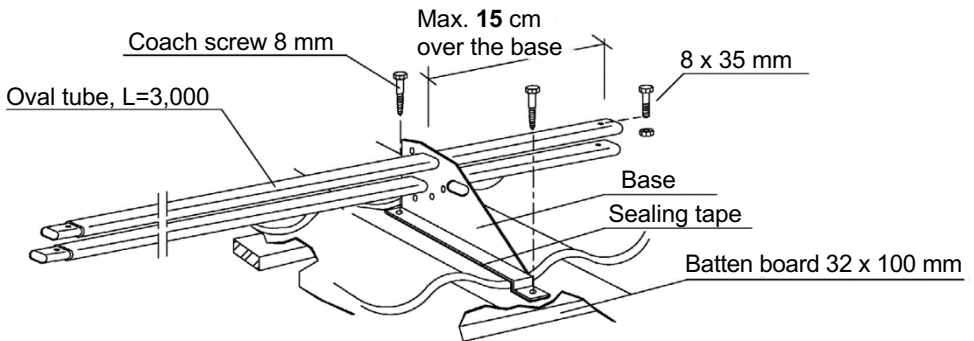

Figure 26. Fixing a snow breaker
Using a tubular snow breaker is recommended at least at locations where people will walk near or under the eaves or there are plants on the ground that might be damaged by falling snow. The tubular snow breaker must be installed on the roof in an area where snow piles up over a load-bearing wall. Fix the bases of the snow breaker (four bases per set) onto the bottom of a roofing sheet bend parallel to a transverse bend (place a sealing strip of 3 x 30 mm in between the base and the roofing sheet) with 8 mm coach screws or (if possible) with a bolt and nut. Push the oval tubes (2) in place and insert 8 x 35 mm bolts through the holes at their ends to prevent the tubes from sliding out sideways (Figure 26).